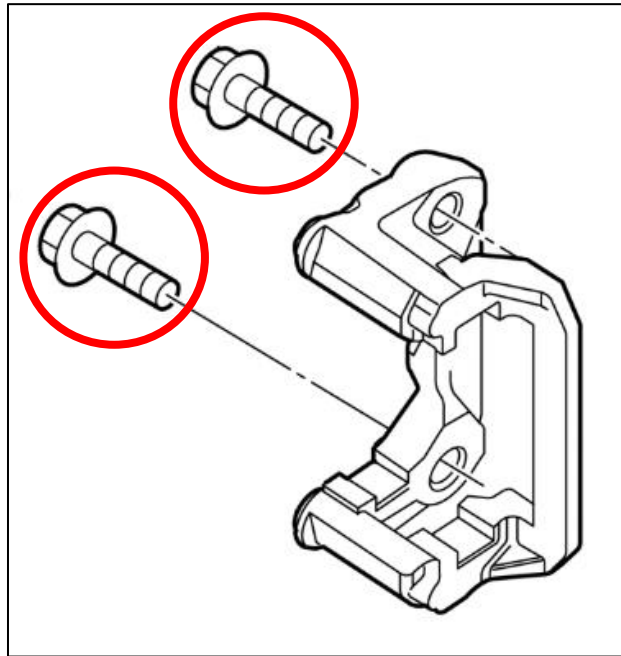

Figure 1
5. Starting on the Passenger Side of the truck, remove the OE Rear Caliper and support the Caliper by hanging it up with a hook or zip tie. It is held on by (2) two bolts. *Figure 1.*